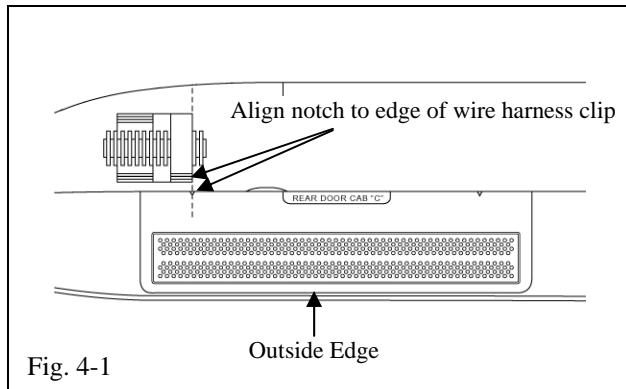

Fig. 4-1
**STOP** (b) Align the rear notch to edge of wire harness clip and the back edge along the tangent of sheet metal flange. Do not smooth part with hands. Do not let part wrap past outside edge of radius. (Fig. 4-1).